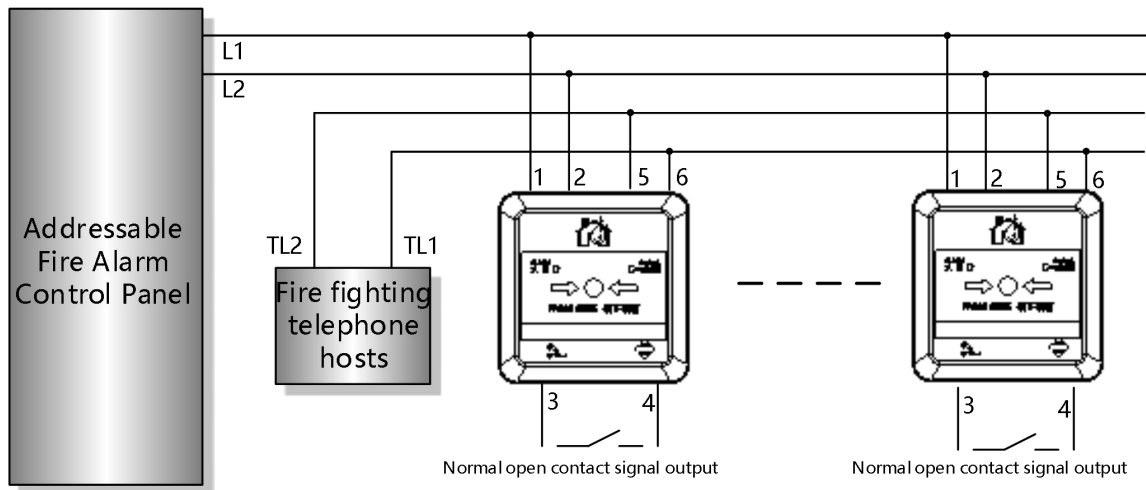
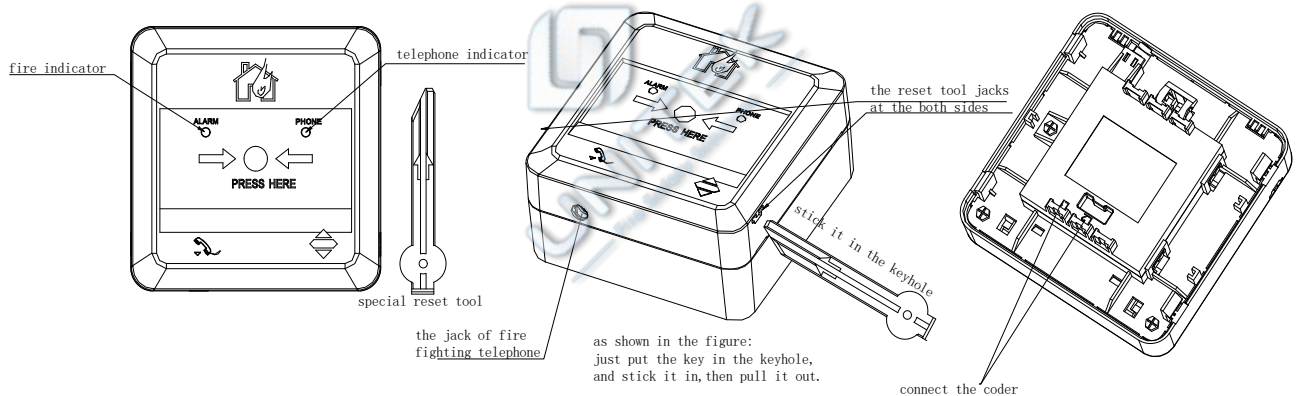

Figure 4 J-SAP-M-A62E wiring method
Figure 5 The use of manual alarm
The wiring method figure as the Figure 4:
**Alarming:** when the fire alarm is confirmed, press the button on the panel of the manual alarm (as the Figure 5), the fire alarm alarms, at the same time, the normally open terminal 3 port, 4 port (as the Figure 4) closes. After the alarm, the indicator light is steady on.
**Restore:** Insert the special reset key through the reset hole of the shell (as shown in Figure 5), insert the reset key into the bottom, pull out, and the panel restores to the original state. Reset the fire alarm controller and restore the manual alarm to the normal monitoring status.
**5.5 Coding address:** Clamp the output end of the encoder to the rear cover L1 and L2 pins (regardless of polarity) as shown in Figure 5, set the encoder to the coding function, compile the correct address number, press the "Run" key to complete the address coding settings; Must use our special encoder for coding operation. (Note: Please refer to the encoder user manual for detailed operation)